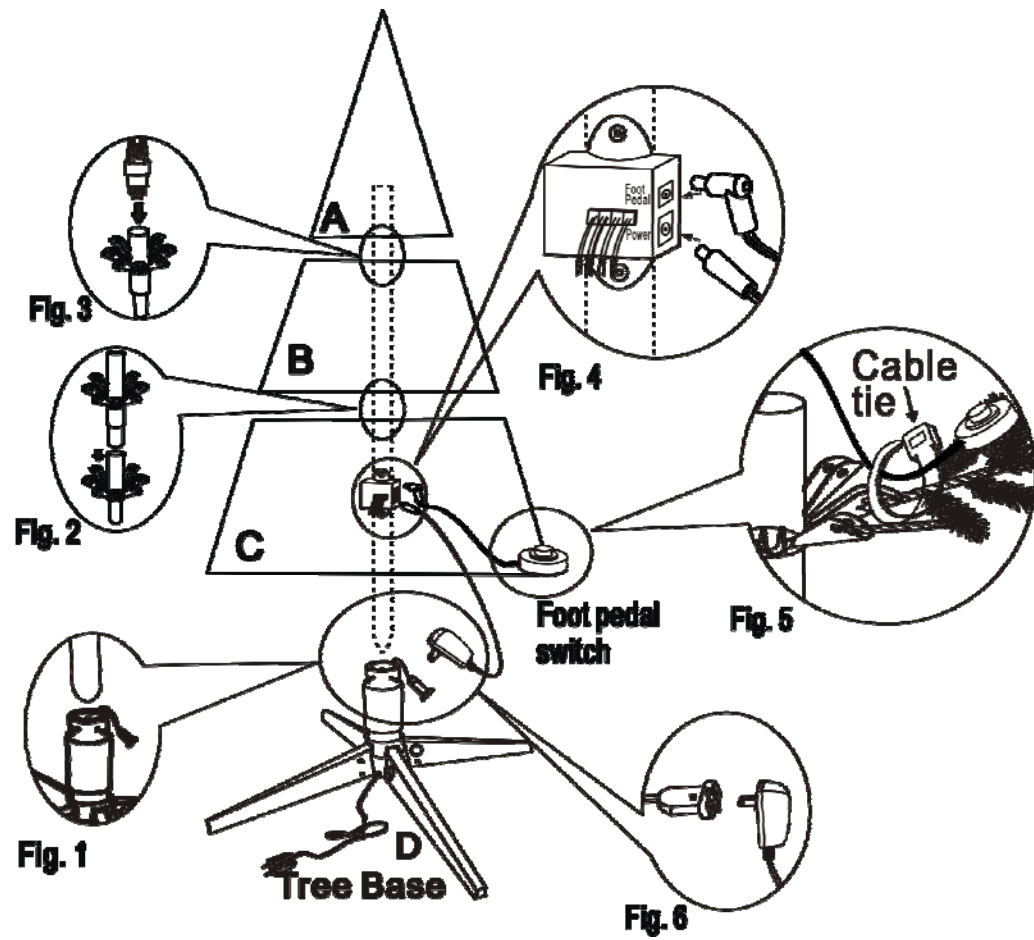

Fig.4
4. Carefully insert tree into the stand and adjust so pole is firmly inserted into stand and screw is tightened. (See Fig.4)
- 4. Insert the provided foot pedal switch and adaptor separately into the tree bottom (C) according to the magnified drawing (See Fig. 4). Don't put the foot pedal switch on the floor to avoid wrapping around the tree when tree base rotates. Use a cable tie to fix the foot pedal switch on a branch of section (C) of the tree (See Fig. 5).